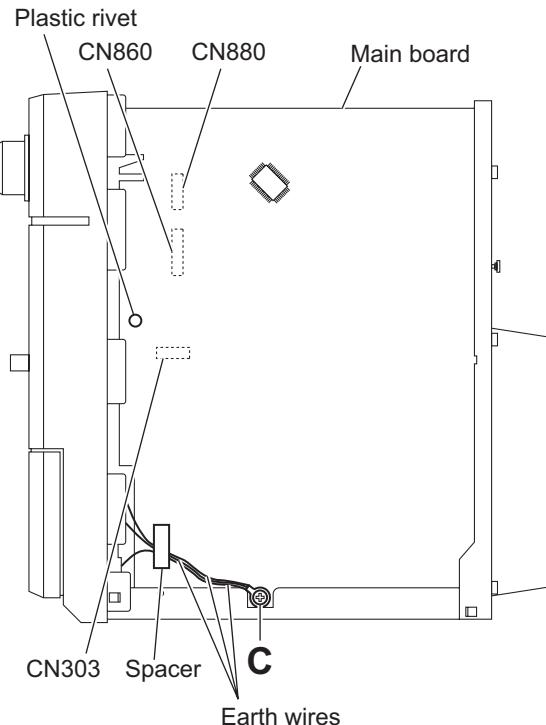

Fig.4
(See Figs.4 to 7)
- (1) From the right side of the main body, remove the screw **C** attaching the earth wires on the reverse side of the main board. (See Fig.4.)
After attaching the earth wires, fix them with a spacer as before. (See Fig.4.)
- (2) Remove the plastic rivet attaching the main board. (See Fig.4.)
- (3) From the inside of the main body, disconnect the card wires from the connectors (CN303, CN860, CN880) on the forward side of the main board. (See Fig.4.)